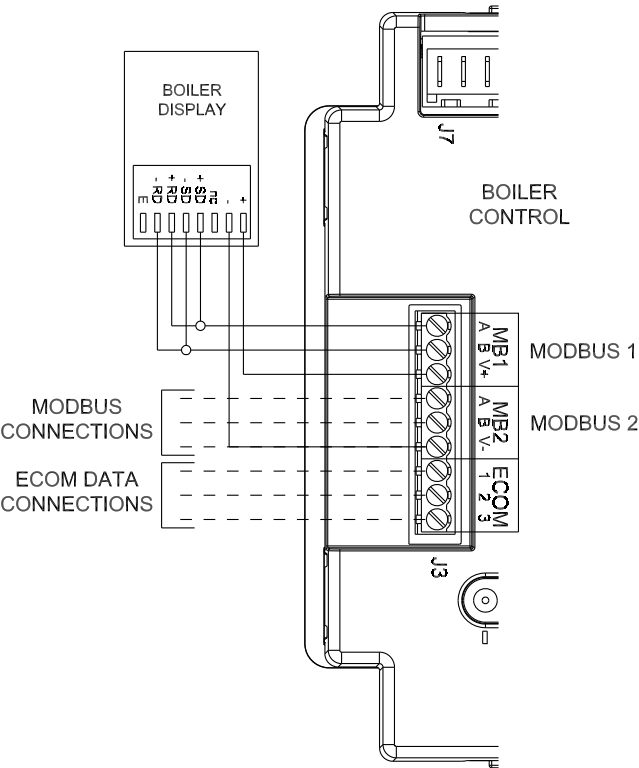

Figure 10.5: J3 Field Wiring
- c. EnviraCOM - Used to connect EnviraCOM thermostat or other EnviraCOM device listed by the boiler manufacturer for use with this boiler. A Honeywell EnviraCOM connection is also located as labeled on the boiler control itself (Figure 10.5).